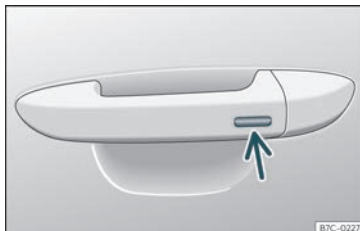

Fig. 86 Door handle: sensor surface.
- Press and hold the locking sensor surface >>> Fig. 86 (arrow) on the door handle to close the sunroof. If you release the sensor surface, the closing movement stops.